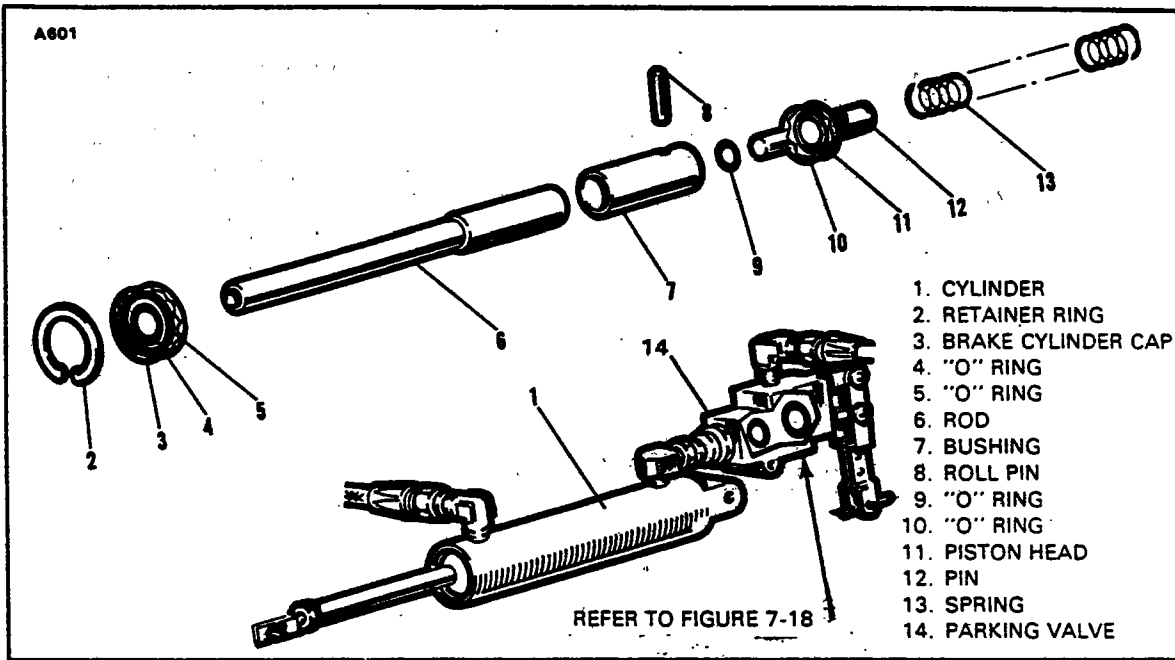
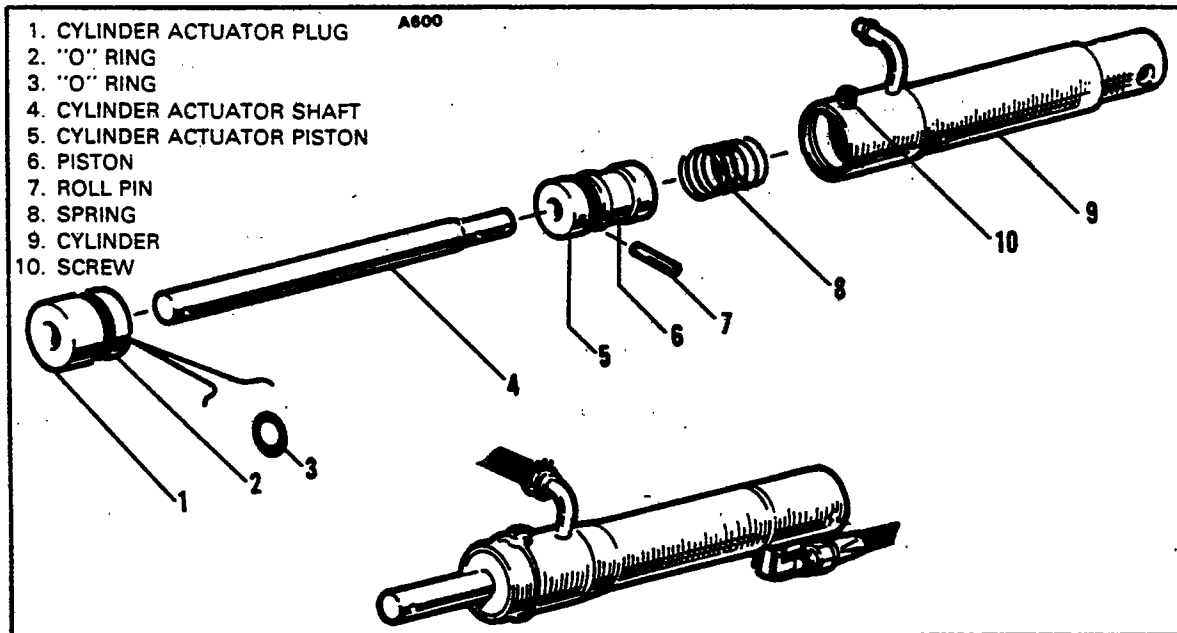
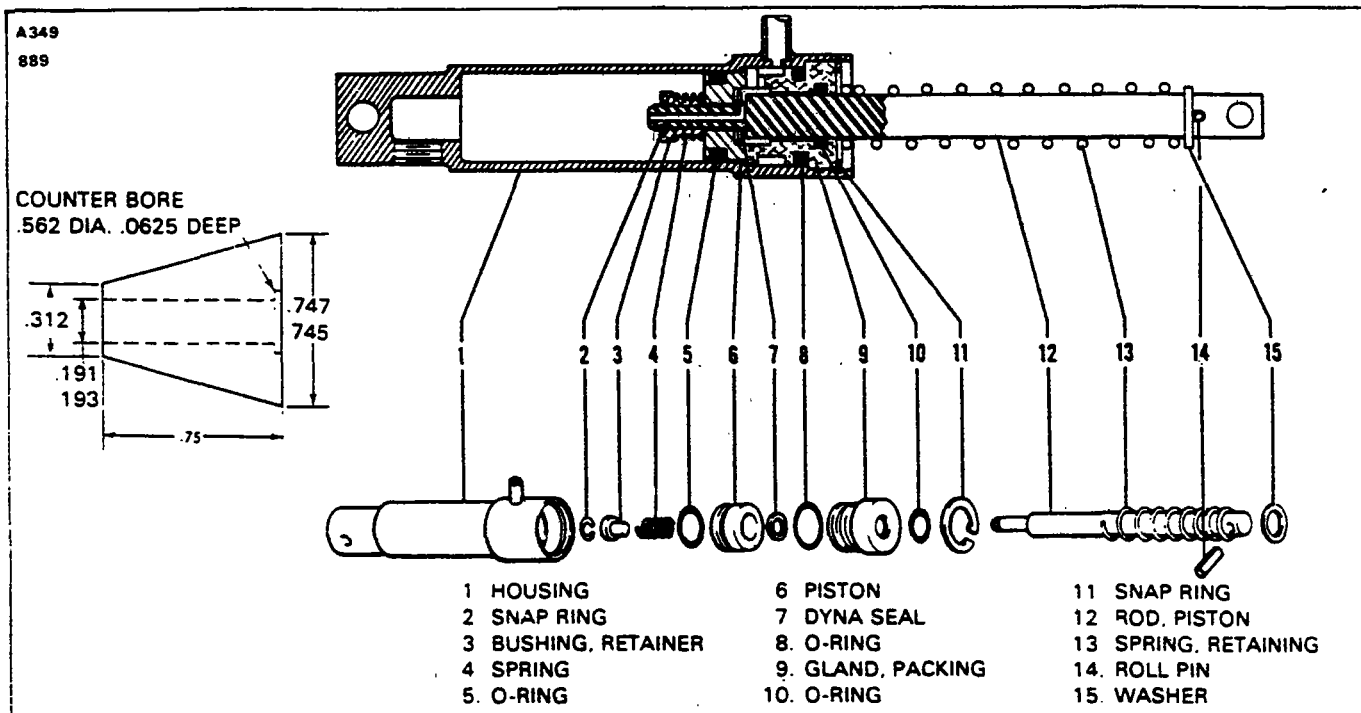

Figure 7-15. Brake Master Cylinder (Hand Brake)
Figure 7-16. Brake Master Cylinder (Hand/Parking Brake)
Figure 7-17. Brake Master Cylinder. (Hand/Parking Brake)
- a. PA-28-150, -160, Serial Nos. 28-1 to 28-250 incl. (Refer to Figure 7-15.)
2. To disassemble the cylinder, first remove the piston rod assembly by removing the retainer ring (2) from the annular slot at the rod end of the cylinder. Draw the piston rod assembly from the cylinder. Remove the spring (13) from the cylinder.
3. The piston rod assembly may be disassembled by first removing the clevis end from the piston rod (6) and then sliding off the brake cylinder cap (3).
4. Remove the roll pin (8) from the bushing (7) thus releasing the piston head and O-rings (9 and 11).
- b. PA-28-140, Serial Nos. 28-20002 to 28-21036 incl; PA-28-150, -160, -180 Serial Nos. 28-251 to 28-2700 incl; PA-28-235, Serial Nos. 28-10003 to 28-10679 incl. (Refer to Figure 7-16.)
2. Cut the safety wire and remove screw (10) that secures the plug (1) in the end of the cylinder (9).
3. Remove the plug (1) and piston assembly from the cylinder by pulling the cylinder actuator shaft (4) from the cylinder.
4. Remove the spring (8) from within the cylinder.
5. Remove the roll pin (7) from the cylinder actuator piston (5) and pull off the piston.
- c. PA-28-140, Serial Nos. 28-21037 and up; PA-28-150, -160, -180, Serial Nos. 28-2701 and up; PA-28-235, Serial Nos. 28-10698 and up. (Refer to Figure 7-17.)
2. To disassemble the cylinder, first remove the piston rod assembly by removing the snap ring (11) from the annular slot at the rod end of the cylinder. Draw the piston rod assembly from the cylinder.
3. The piston rod assembly may be disassembled by first removing the small snap ring (2) securing the retainer bushing (3), spring (4), piston (6), seal (7), gland (9), and, if desired, the large retainer spring (13).
- a. PA-28-150, -160. Serial Nos. 28-1 to 28-250 incl. (Refer to Figure 7-15.)
b. PA-28-140, Serial Nos. 28-20002 to 28-21037; PA-28-150, -160, -180, Serial Nos. 28-251 to 28-2700 incl; PA-28-235, Serial Nos. 28-10003 to 28-10697 incl. (Refer to Figure 7-16.)
5. Install the plug assembly (1) on the shaft and install the screw through the housing.
- c. PA-28-140. Serial Nos. 28-21037 and up; PA-28-150, -160, -180. Serial Nos. 28-28-2701 and up; PA-28-235. Serial Nos. 28-10698 and up. (Refer to Figure 7-17.)
1. Install new "O" ring on the inside and outside of the packing gland (9) and on the outside of the piston (6). (When installing teflon "O" ring (5) on piston, it is recommended that it be installed with the use of a cone placed against the piston. The cone may be constructed of plastic or metal with dimensions shown in Figure 7-17.)
2. To assemble the piston rod assembly, install on the rod (12), in order, the roll pins (14), return spring retainer washer (15), retaining spring (13), packing gland (9) with "O" rings (10), seal (7), piston (6) with "O" ring, spring (4) and retainer bushing (3). Secure these pieces with snap ring (2) on the end of the rod.
3. Insert the piston rod assembly in the housing (1) and secure packing gland with snap ring (11).